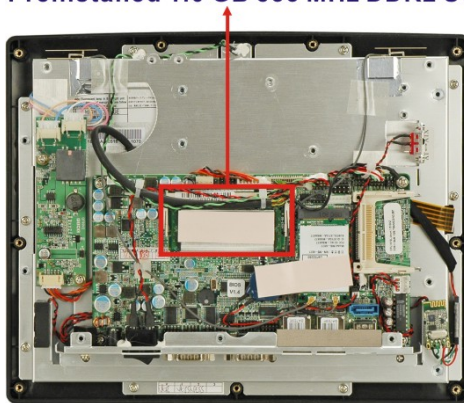

Figure 5-4: AFL-10A-N270 SO-DIMM Socket Location
Step 3: Locate the DDR2 SO-DIMM on the motherboard (**Figure 5-4**).